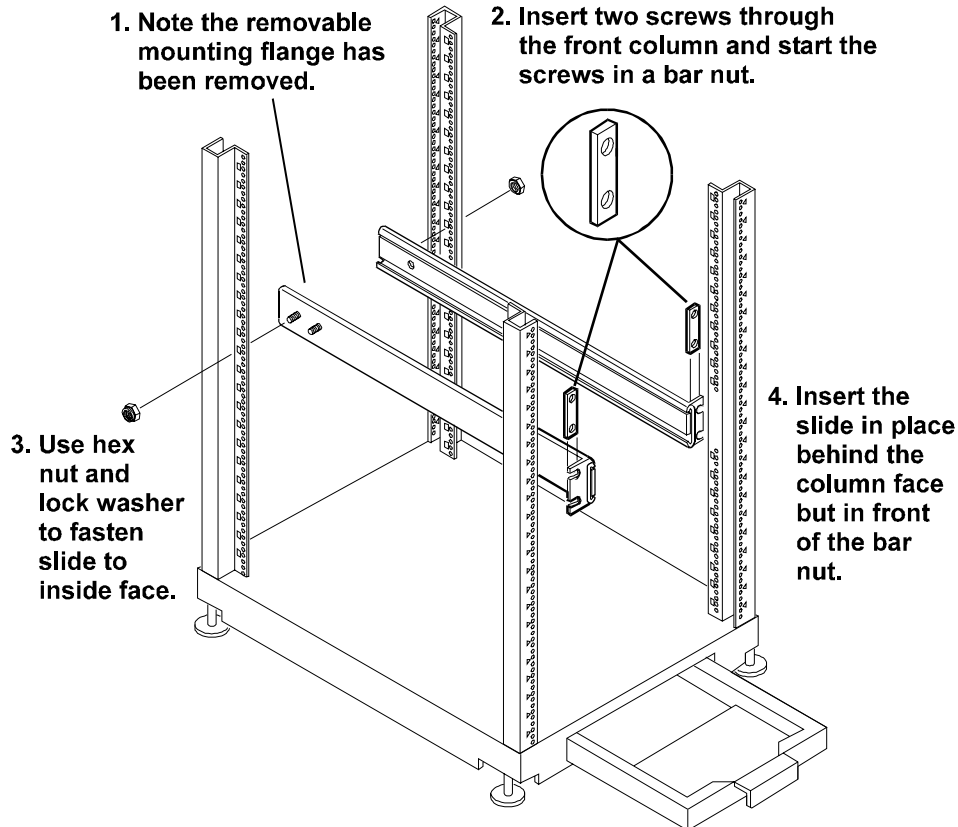

Figure A-5. Attaching the Slides
2. Hold the slide so the slide members extend out the front of the rack (see Figure A-5).